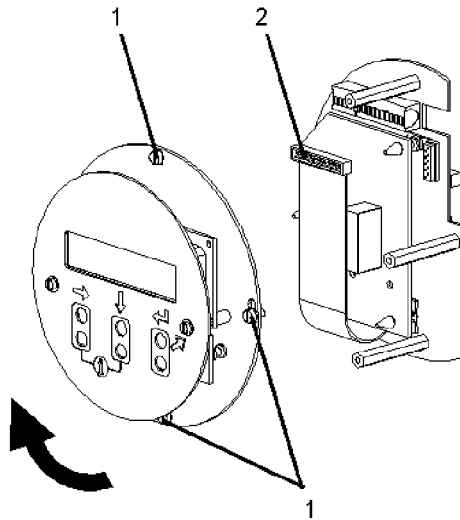

Fig. 4-5: Turning the display unit by 90°
- Loosen the three screws (1 in *Fig. 4-5*) at the display unit.
- Pull the plug off (2 in *Fig. 4-5*) from underneath the display unit and reconnect it.